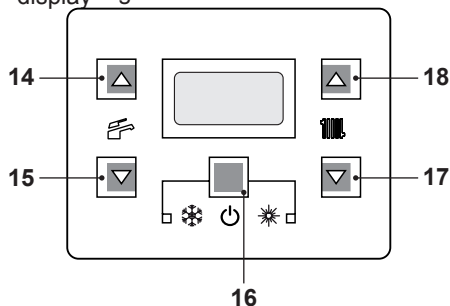

Fig. 2.5
- Press the key 16 for 2 seconds until both and symbols appear on the display Fig. 2.5.